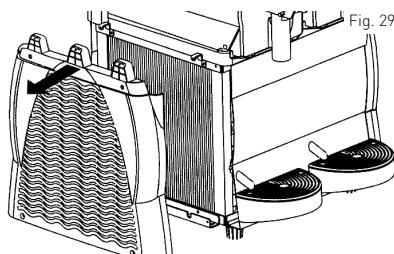

Fig. 29
- After removing the 4 screws, take off the safety guard. (See Fig. 29)